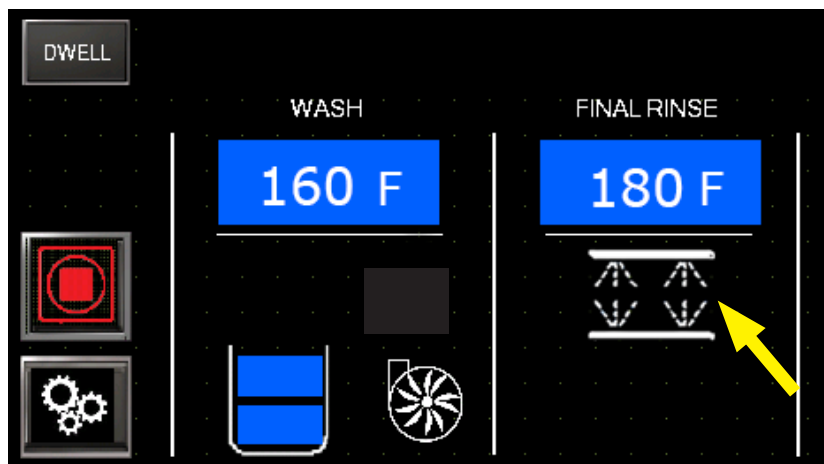

Fig. 21- Final rinse spray icon
- 2 The final rinse spray icon and final rinse temperature appear on the display when the final rinse runs, Fig. 21.